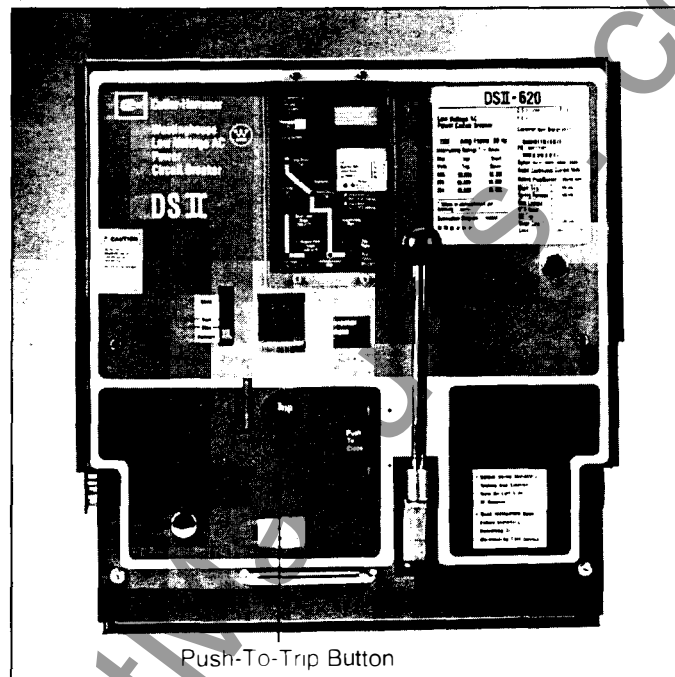

Figure 2-9 OPTIM Trip Unit Mounted in DSII Circuit Breaker
- DSII/DSLII (100-5000 amperes) (Figure 2-9)